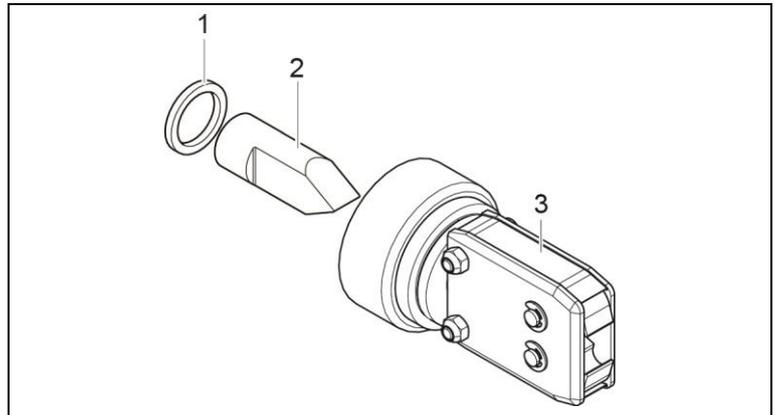

Fig. 30: Pincer head set
- Spacer washer (Fig. 30/1)
- Plunger (Fig. 30/2)
- Pincer head (Fig. 30/3)